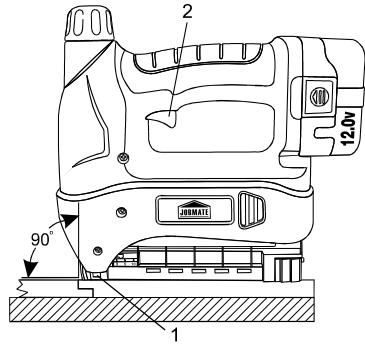

Fig. 8
1. Hold the handle firmly with the magazine flat against the workpiece (see Fig. 8).